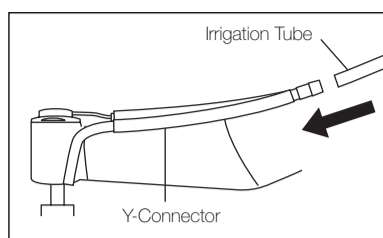

Fig. 10
(3) Internal and External Irrigation together
Connect the ends of the Y-Connector to the Internal Irrigation Nozzle and External Irrigation Nozzles respectively as detailed in procedures (1) and (2). (Fig. 10)